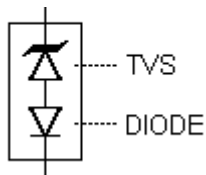
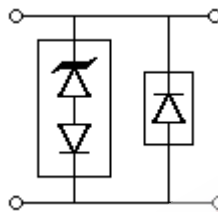

FIGURE 2
FIGURE 3
The TVS low capacitance device configuration is shown in Figure 2. As a further option for unidirectional applications, an additional low capacitance rectifier diode may be used in parallel in the same polarity direction as the TVS as shown in Figure 3. In applications where random high voltage transients occur, this will prevent reverse transients from damaging the internal low capacitance rectifier diode and also provide a low voltage conducting direction. The added rectifier diode should be of similar low capacitance and also have a higher reverse voltage rating than the TVS clamping voltage V_C . The Microsemi recommended rectifier part number is the "LCR80" for the application in Figure 5. If using two (2) low capacitance TVS devices in anti-parallel for bidirectional applications, this added protective feature for both directions (including the reverse of each rectifier diode) is also provided. The unidirectional and bidirectional configurations in Figure 3 and 4 will both result in twice the capacitance of Figure 2.